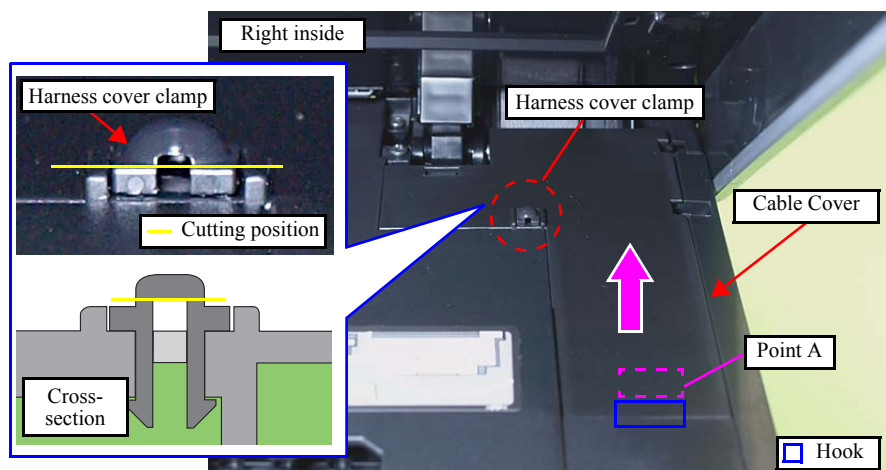

Figure 4-203. Removing the Cable Cover
2. Cut the harness cover clamp with a nipper as shown in Fig. 4-203, and remove the Cable Cover.
- When installing the Cable Cover, secure it with a new Harness Cover Clamp. (See Fig. 4-203.)